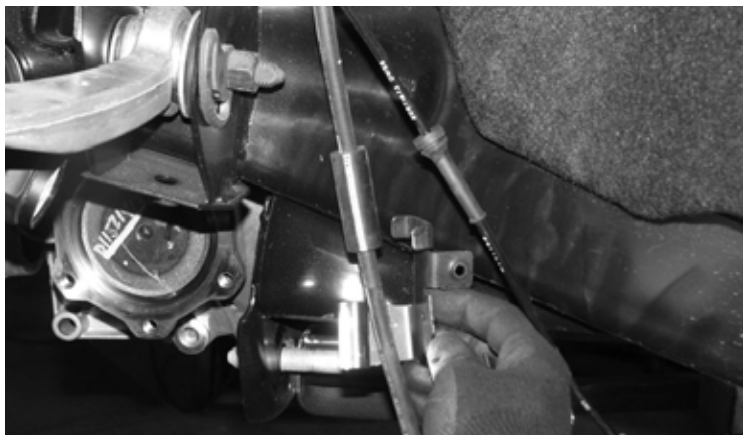

FIGURE 19 - STEP 13
13. Remove the factory brake line bracket from the brake line. Be careful not to damage the hose. **NOTE: May require cutting, be careful not to damage the hose. SEE FIGURE 19**